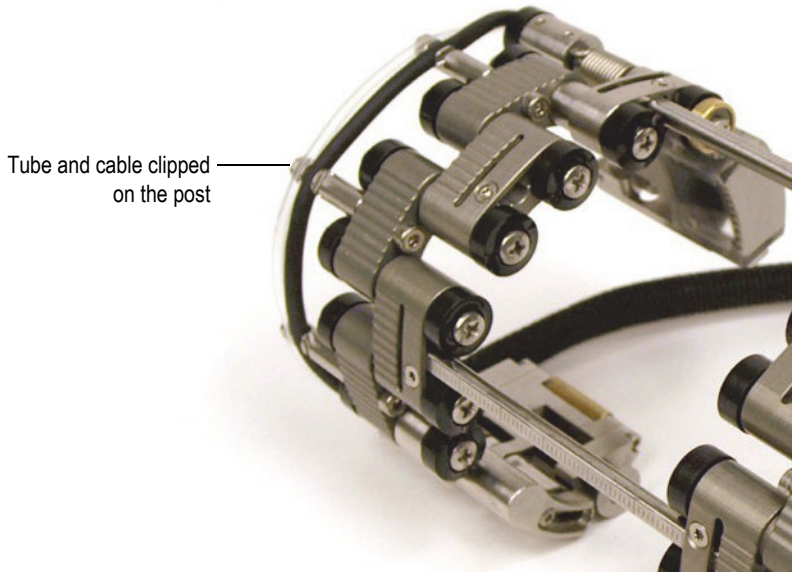

Figure 2-6 Clipping the tube and the cable on the post
3. On the scanner, clip the cables and the tube into the cable-management posts (see Figure 2-6 on page 37).